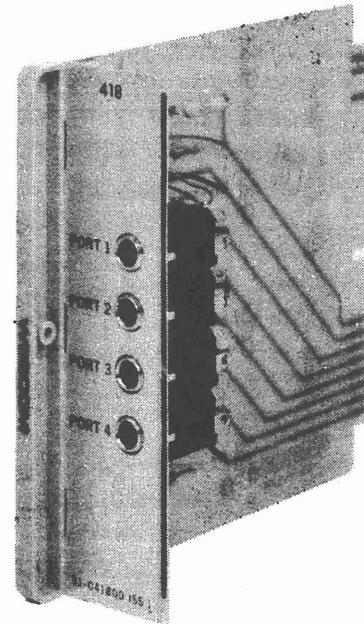

Figure 1. 418 2-Wire/4-Way Conference Bridge
1.01 This Practice provides circuit description, installation procedures, and basic testing information for the Wescom[®] 418 2-Wire/4-Way Conference Bridge (Figure 1).